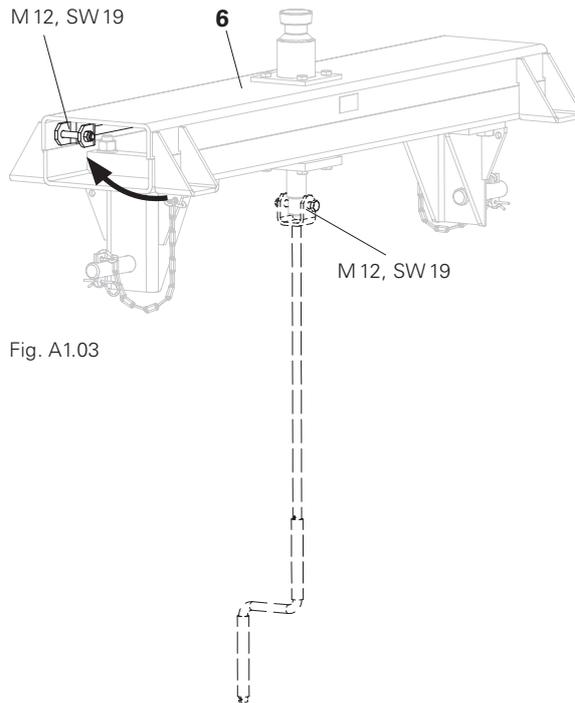

Fig. A1.03
2. Fix crank in the reversing tube using hex. bolts and nuts M12, SW 19. (Fig. A1.03)